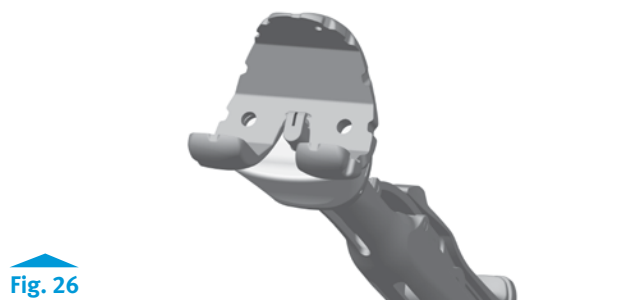

Fig. 26
- Remove any posterior osteophytes or overhanging bone on the femur to facilitate maximum knee flexion. Attach the Femoral Inserter/Extractor to the correct CR Femoral Provisional by inserting the tab on the Femoral Inserter/Extractor arm into the anterior notch in the CR Femoral Provisional and close the handle on the Femoral Inserter/Extractor to secure the CR Femoral Provisional (Fig. 26). Place the correct CR Femoral Provisional onto the femur in the desired medial/lateral position. Impact the end of the Femoral Inserter/Extractor handle and apply an upward force to fully seat the CR Femoral Provisional onto the femur in the proper orientation. (Fig. 27). To remove the Femoral Inserter/Extractor from the CR Femoral Provisional, pinch the release lever on the proximal portion of the Femoral Inserter/Extractor (Fig. 27). Alternatively, if the CR Femoral Provisional is placed on the femur by hand, the CR femoral Impaction Pad/insertor assembly can be used to impact the provisional onto the femur. If this insertion/impaction method is used, the inserter handle must be in the closed and locked position. For additional fixation of the fully seated provisional, insert the 25mm x 3.2mm screw (2.5mm female hex) with the 2.5mm Male Hex Driver through the hole in the lateral anterior flange of the CR Femoral Provisional (Fig. 28).